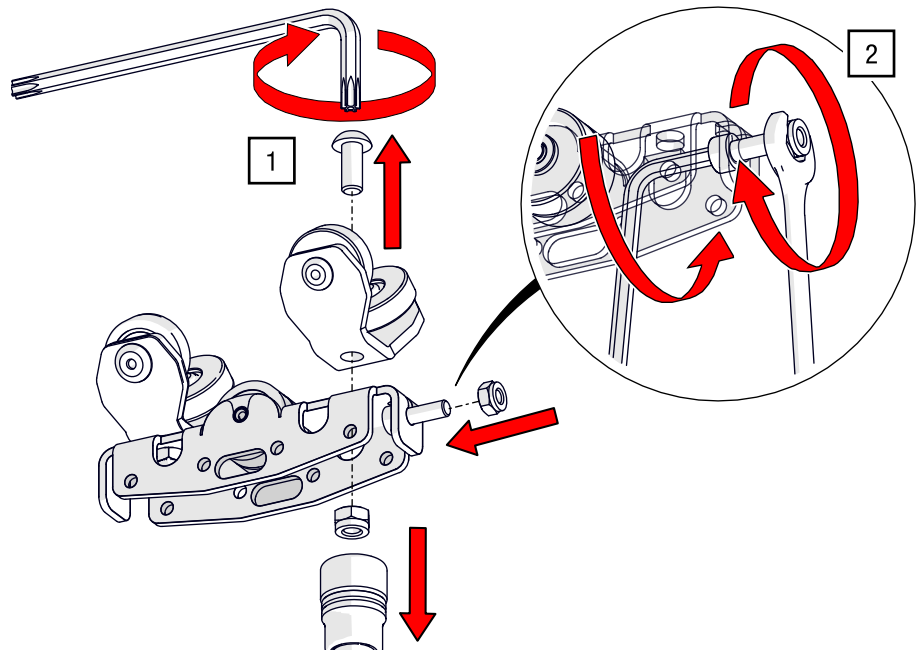

Fig. 56: OFFICE master runner – Mounting the screw for magnetic coupling
1. Loosen the screw connection of the front wheel mount using a hex socket wrench AF 8 and a TORX®-key T25 (see Fig. 56).
2. Remove the rubber buffer, tighten the screw of the magnet catch plate and the hexagon nut using an open-end wrench AF 4 and a hex key AF 3 to 3 Nm (see Fig. 56).